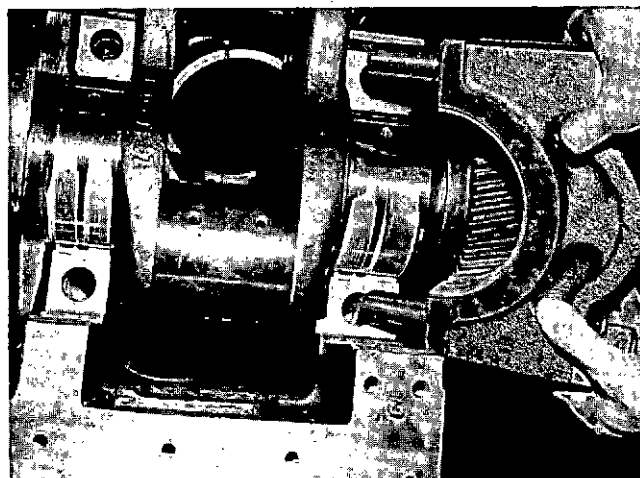

Fig. 14-1-4, V414107. Match numbers on cap with numbers on block
7. Install main bearing caps so numbers on caps and block match (Fig. 14-1-4) and are adjacent. On No. 7 cap, be sure to locate thrust rings over dowels before locating cap to block.